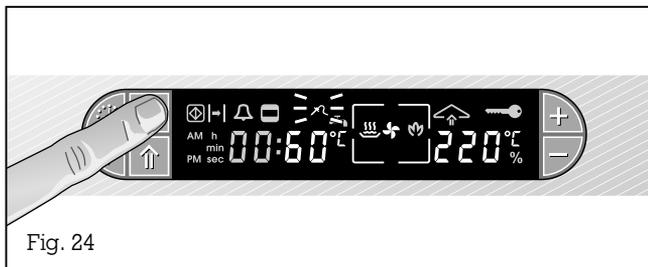

Fig. 24
- Press the ^ (Core temperature sensor) key twice. The ^ (Core temperature sensor) symbol flashes and the suggested value of 60 °C can be seen on the display (Fig. 24).